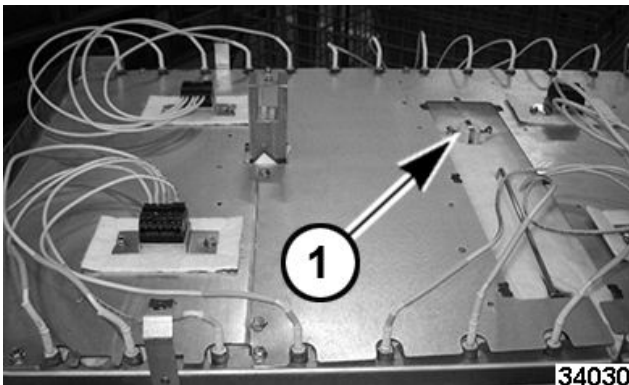

Fig. 52
3. Remove panel to access high limit thermostat (1, Fig. 52).